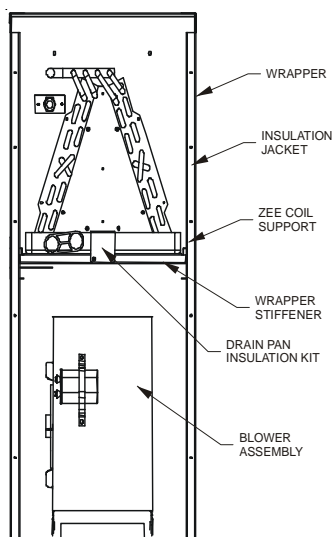

Figure 5
To complete the conversion, slide the evaporator coil into the chassis and attach the three (3) access panels. (Figure 5).